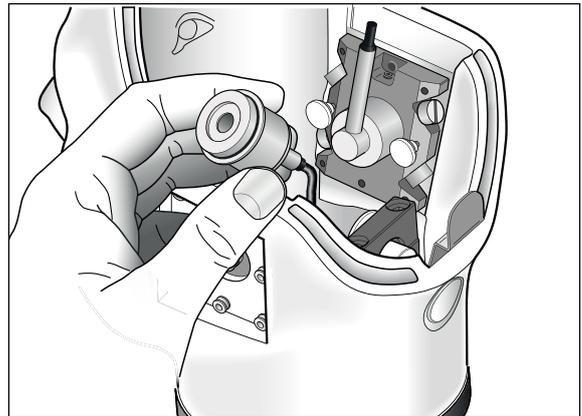

Fig. 48. Ear Simulator with the new Ear Simulator Holder.
4. Mount the Ear Simulator Holder onto the Ear Simulator by turning it clockwise. (Fig. 48)